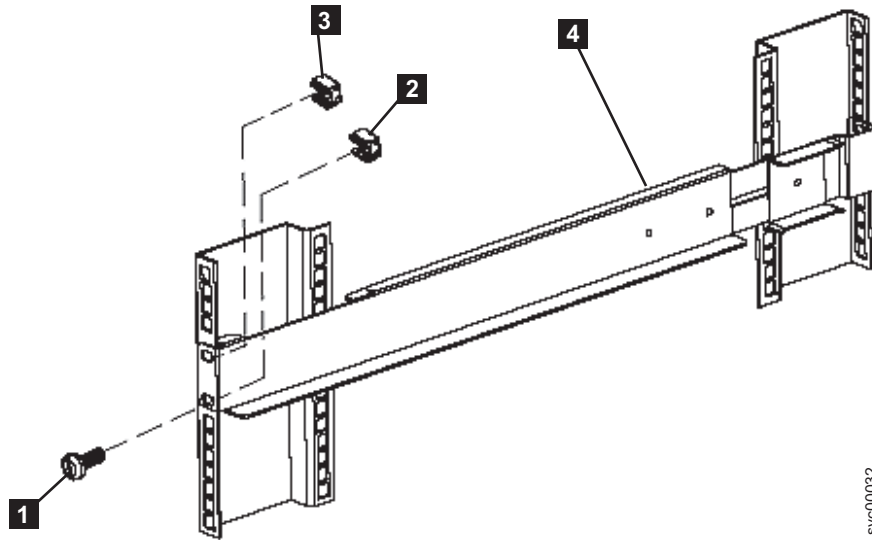

Figure 149. Removing the front rail on the 2145 UPS-1U
3. Remove the clip nut from the top hole of the rail (**3** in Figure 149).